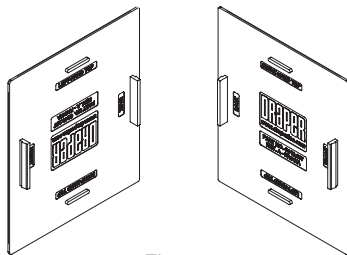

Figure 1
- ① Snap endcap covers onto endcaps (see Fig. 1).